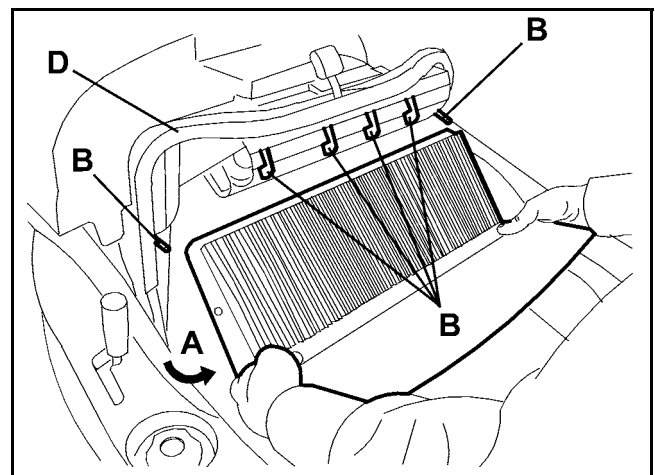

Figure 18
6. Remove the dust filter by turning it in the direction shown by the arrow (A, Fig. 18) to disengage it from the pins (B), then lower the filter to disengage it from the filter shaker combs (C).
10. Clean the bearing surface of the hopper gasket (D, Fig. 18) and check it for integrity and sealing capabilities. If necessary, replace it.